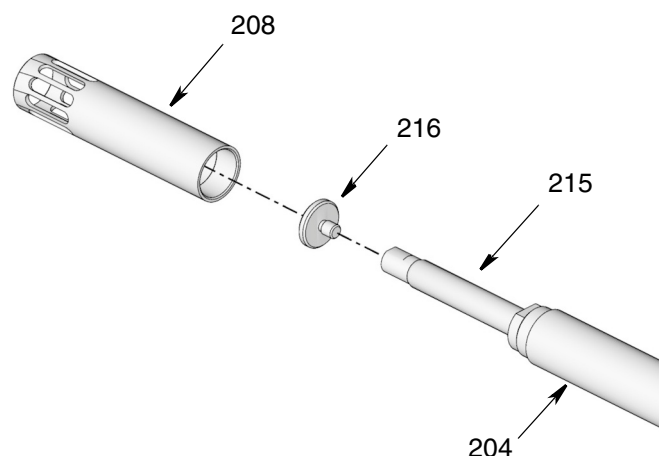

FIG. 27
15. The pump cylinder is comprised of 3 separate sections. Separate the shovel cylinder section (208) from the pump cylinder (204) first, using two pipe
wrenches, working in opposite directions to loosen shovel cylinder. When cylinder (208) is loose enough, use your hands to unscrew and remove it from the other sections (FIG. 27).
16. Use a socket to loosen and remove shovel piston (216) (FIG. 27).